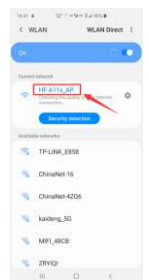
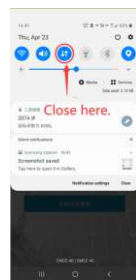

Figure3
Figure4
C) After all are entered, first select the drop-down menu of the mobile phone and long press the network to select the HF-A11x_AP connection, as shown in Figure 3, and close the data connection of the mobile phone, as shown in Figure 4:
D) After all are entered, first select the drop-down menu of the mobilephone and long press the network to select the HF-A11x_AP connection, as shown in Figure 3, and close the data connection of the mobile phone, as shown in Figure 4: